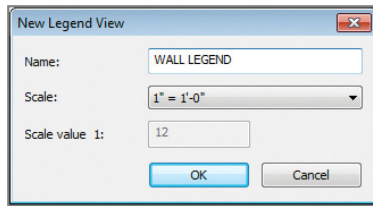

FIGURE 11.35 Creating a legend
1. Choose the Legend button on the View tab's Legends flyout. Creating a new legend is much like creating a new drafting view. A New Legend View dialog box opens (Figure 11.35) where you can name the legend and set the scale. Name this legend **WALL LEGEND**, and choose 1" = 1'-0" (1:10) for the scale. Click OK to create the legend.